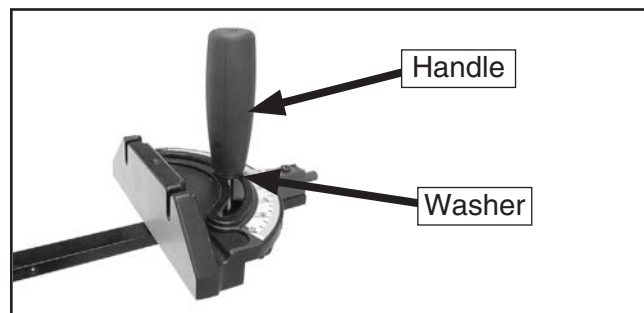

Figure 20. Example of miter gauge assembled.
19. Install miter gauge handle and 8mm flat washer onto miter gauge, as shown in **Figure 20**.